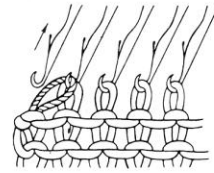

Fig.55
- With the single eye transfer tool transfer the stitch from the end needle onto the second needle. (Fig.55)